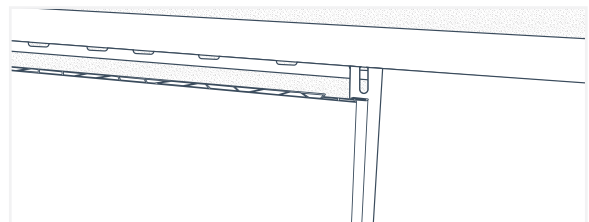
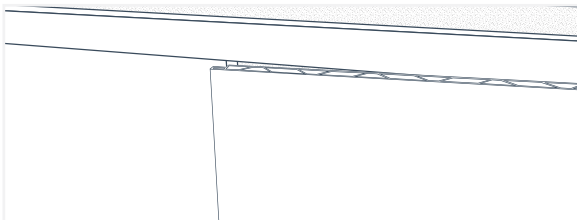

Fig. 38
Fig. 39
9. Insert the tongue end of the replacement panel in first, using a putty knife to pry open any adjacent trims if needed (Fig.38). Then, simply place the groove end of the replacement panel on top of the tongue (with the bead of silicone) of the adjacent panel (Fig. 39).